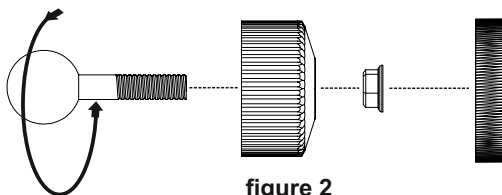
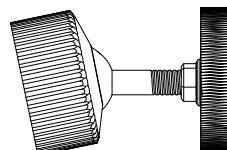

figure 2
figure 3
Mount (3), (4) & (5) as shown in figure 2. Screw the threaded ball (4) into the threaded insert on the rear of the loudspeaker (6) (loudspeaker not shown below). Tighten M8 nut (5) against the loudspeaker with a spanner. The assembly will now be as shown in figure 3.